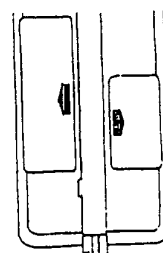

Figure 7
2. Press the right battery compartment cover's tab and slide the cover in the direction of the arrow (see Figure 7).